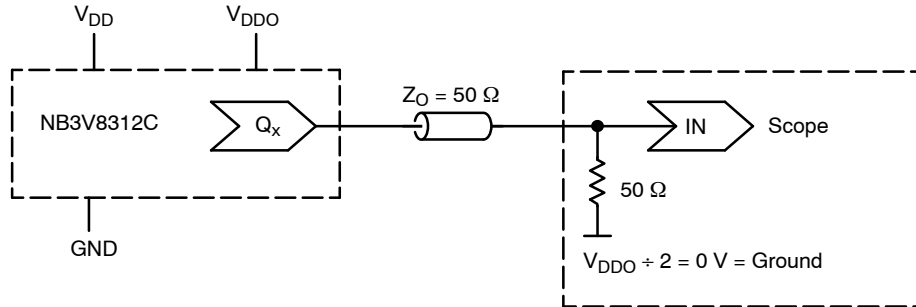

Figure 7. Typical Device Evaluation and Termination Setup – See Table 8
6. Outputs terminated  $50\ \Omega$  to  $V_{DDO}/2$  unless otherwise specified. See Figure 7.
7. Outputs loaded with 50  $\Omega$  to  $V_{\text{DDO}}/2$ ; see Figure 7. CLOCK input with 50% duty cycle; minimum input amplitude = 1.2 V at  $V_{\text{DD}} = 3.3$  V, 1.0 V at  $V_{\text{DD}} = 2.5$  V,  $V_{\text{DDO}}/2$  at  $V_{\text{DD}} = 1.8$  V.